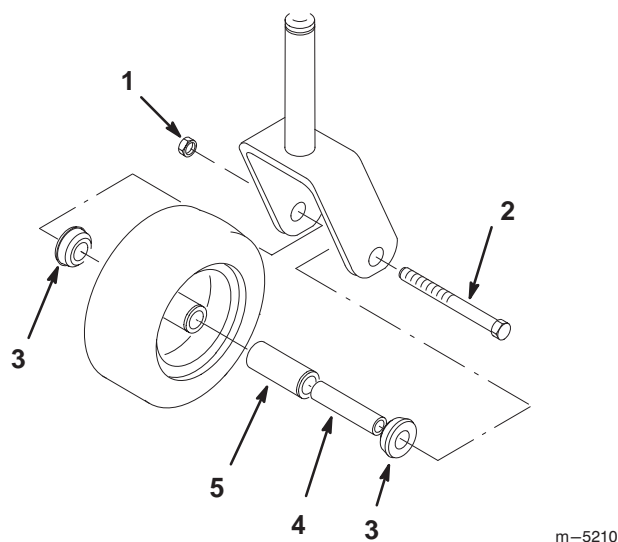

Figure 63
1. Remove the locknut and wheel bolt holding the caster wheel to the caster fork (Fig. 63).
2. Remove one bushing, then pull the spanner bushing and roller bearing out of the wheel hub (Fig. 63).
3. Remove the other bushing from the wheel hub and clean any grease and dirt from the wheel hub (Fig. 63).
4. Inspect the roller bearing, bushings, spanner bushing and inside of the wheel hub for wear. Replace any defective or worn parts (Fig. 63).
5. To assemble, place one (1) bushing into the wheel hub. Grease the roller bearing and spanner bushing and slide them into the wheel hub. Place the second bushing into the wheel hub (Fig. 63).
6. Install the caster wheel into the caster fork and secure with the wheel bolt and locknut. Tighten the locknut until the spanner bushing bottoms against the inside of the caster forks (Fig. 63).